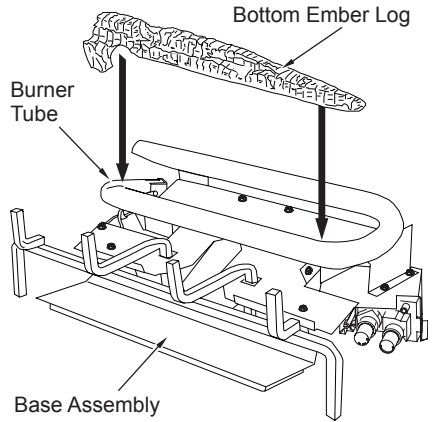

Figure 49 - Installing Bottom Ember Log
1. Place bottom ember log on base assembly as shown in Figure 49. The log should fit over the left side of the burner and rest in the middle of the U-burner.